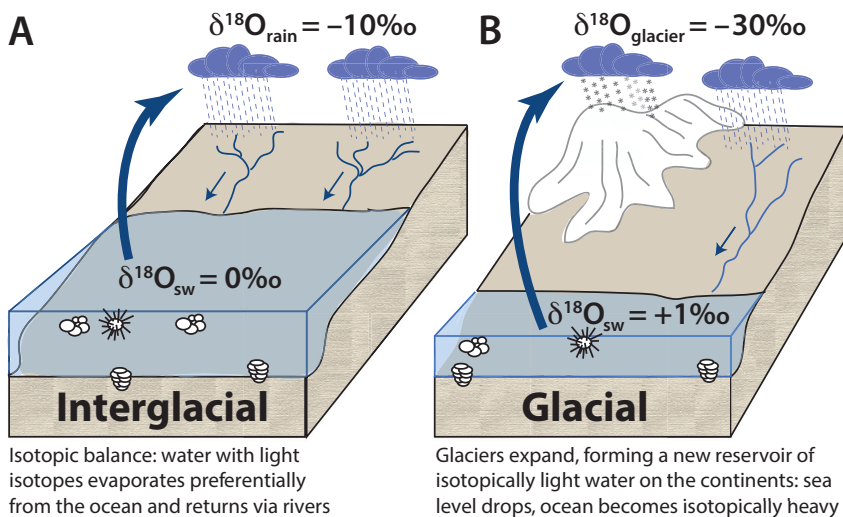

FIGURE 1. Comparison of the isotopic composition of seawater with respect to oxygen during interglacial and glacial times.
1. If we compare our reactant and condensate to the natural system in Figure 1, which parts of the hydrologic cycle do they represent?